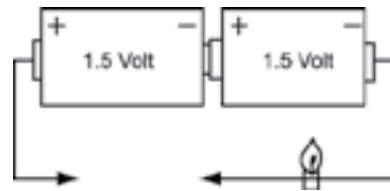

Figure 20 Test Lamp
**Test Lamp:** Connect the leads of a test lamp, consisting of standard flashlight batteries and a flashlight and built, as shown in Figure 20, across the rectifier in one direction. Then reverse the leads. The lamp should illuminate in one direction but not the other. If the lamp illuminates in both directions, the rectifier is shorted. If the lamp does not illuminate in either direction, the rectifier is open.
Surge protectors may be included on the rotating rectifier assembly. Disconnect one lead of the surge protector, and connect the leads of an ohmmeter or makeshift test lamp, consisting of standard flashlight batteries and a flashlight and built as shown in Figure 20, across the surge protector in either direction. If the light comes on, the surge protector is defective. Order surge protectors by part number, including the model and type of exciter as well as the generator serial number. Following replacement, make sure that the revolving field, exciter armature, and rotating diode leads are properly secured.